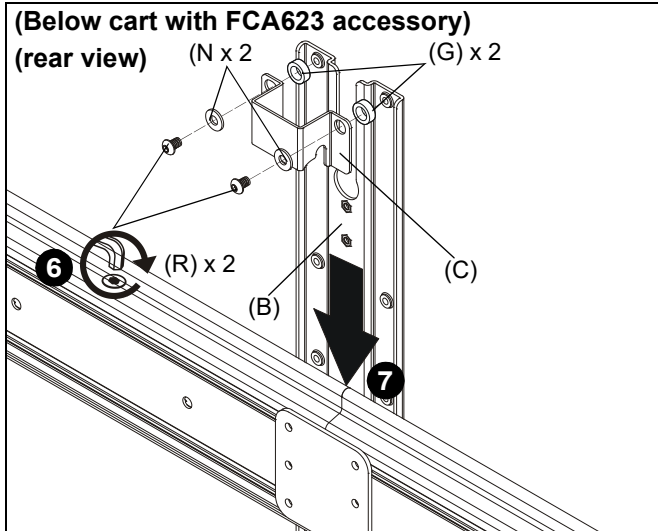

Figure 9
6. Use two 1/4-20 x 7/16" button head cap screws (R), two large washers (N) and two 1/2" spacers (G) to secure shelf bracket (C) to main bracket (B). (See Figure 9)
7. Slide main bracket (B) onto front of cart/ceiling mount head assembly until shelf bracket (C) rests on top of head assembly. (See Figure 9)